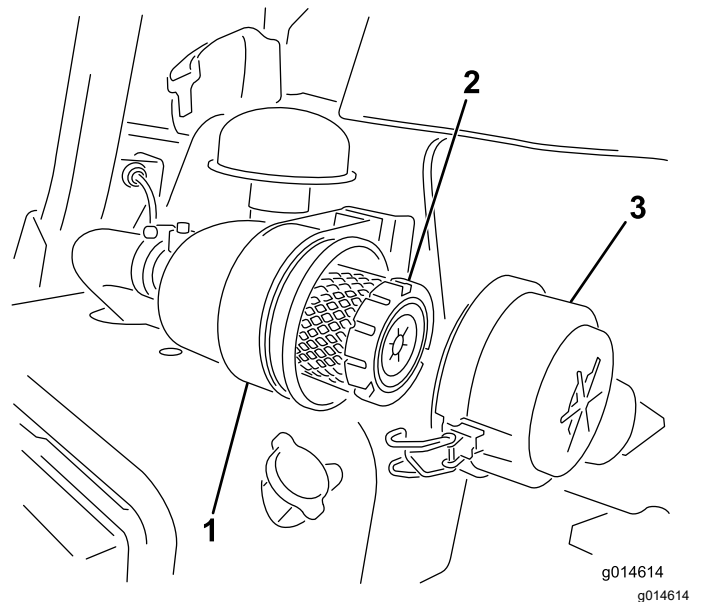

Figure 33
1. Release the latches securing the air-cleaner cover to the air-cleaner body (Figure 33).
- Secure the latches (Figure 33).